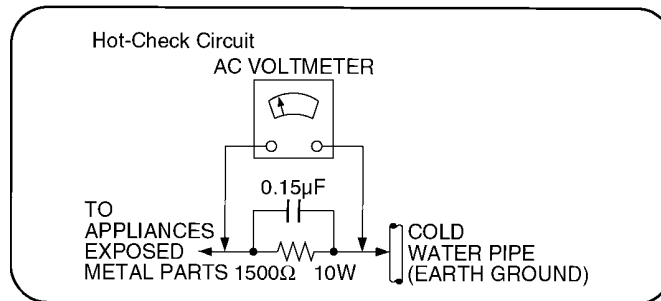

Figure 1
1.1.2. LEAKAGE CURRENT HOT CHECK (See Figure 1.)
2. Connect a 1.5kΩ, 10 watts resistor, in parallel with a 0.15μF capacitors, between each exposed metallic part on the set and a good earth ground such as a water pipe, as shown in Figure 1.